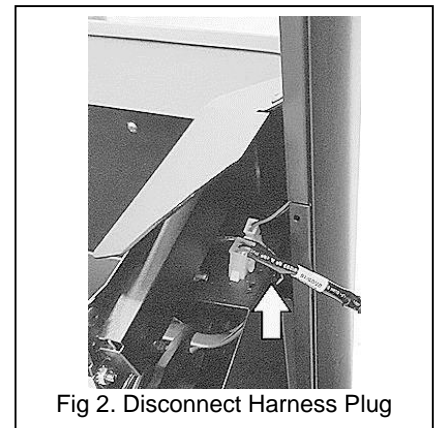

Fig 2. Disconnect Harness Plug
- Unplug the connector as shown in Fig 2.